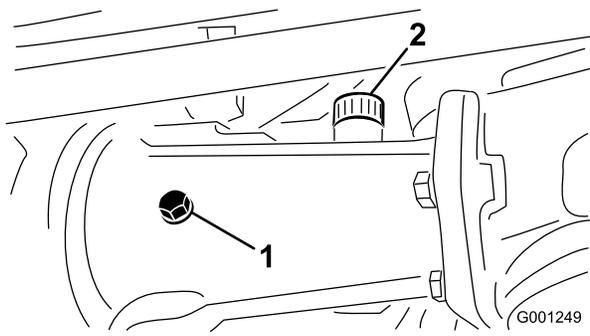
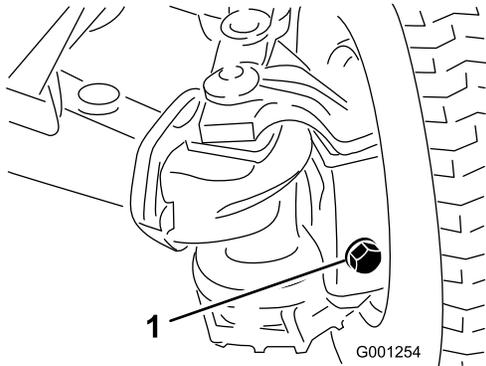

Figure 59
Figure 60
2. Remove the check plug from the center-axle housing and the axle and fill/check plugs at each outboard-axle case (Figure 59 and Figure 60).
3. Check that there is lubricant up to the threads at the bottom of each plug hole (Figure 59 and Figure 60).
- A. If filling the center-axle housing, remove the fill plug (Figure 59).
- B. Add the specified rear-axle lubricant into the axle reservoir(s) until the lubricant level up to the bottom of the check-plug holes (Figure 59 and Figure 60).
- C. If removed from the center-axle housing, apply PTFE thread sealant to the threads of the fill plug and install it into the housing (Figure 59).
5. Apply PTFE thread sealant to the threads of the check plug from the center-axle housing and fill/check plugs from the 2 outboard-axle cases (Figure 59).
6. Install the check plug into the center-axle housing and fill/check plugs into the 2 outboard-axle cases (Figure 59 and Figure 60).
1. Drain plug (3)
8. Apply PTFE thread sealant to the threads of the check plug from the center-axle housing and fill/check plugs from the 2 outboard-axle cases; refer to Figure 59 and Figure 60 in Checking the Rear Axle Lubricant (page 51).
9. Install the check plug into the center-axle housing and fill/check plugs into the 2 outboard-axle cases; refer to Figure 59 and Figure 60 in Checking the Rear Axle Lubricant (page 51).